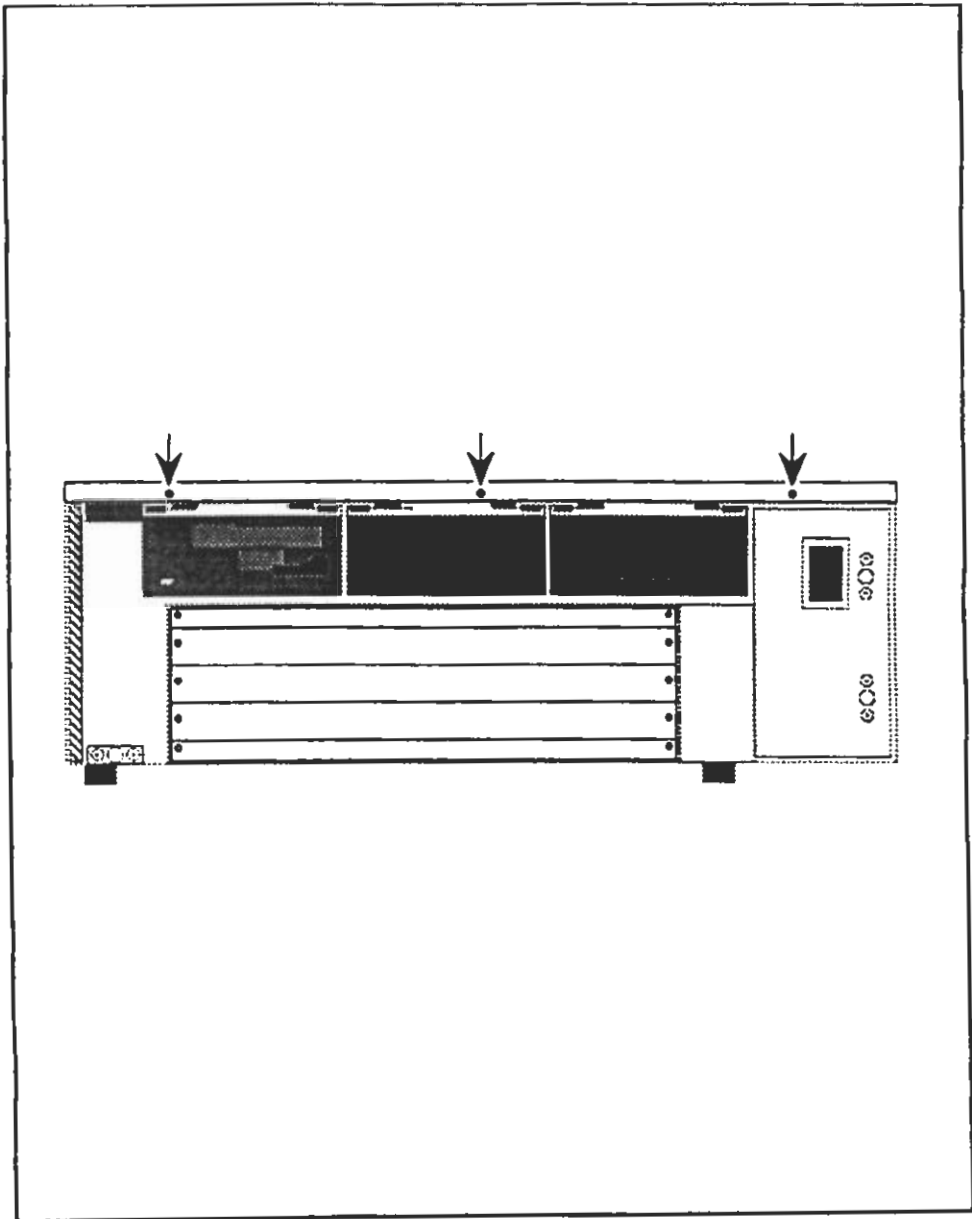

Figure 1. Front Panel
2. Remove the top cover by loosening the three screws on the front edge, grasping the front edge, lifting and moving the top back until it is removed. See Figure 1.